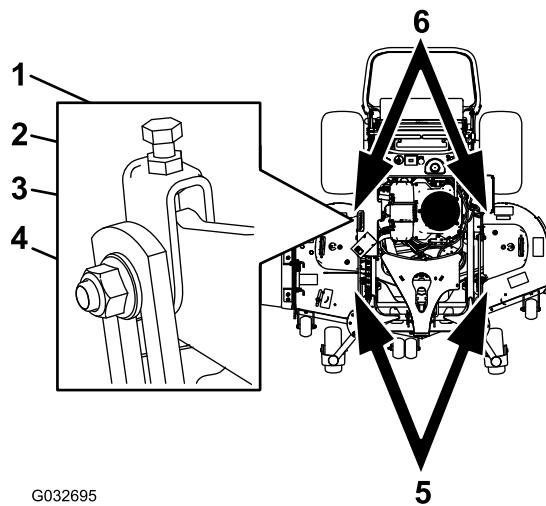

Figure 92
1. Loosen the jam nut and side bolt in the yokes that you want to adjust (Figure 92).
2. Rotate the top bolt of the yokes to adjust the height of the mower deck (Figure 92).
5. If the measurement is not correct, locate the front 2 yokes on the machine (Figure 92).